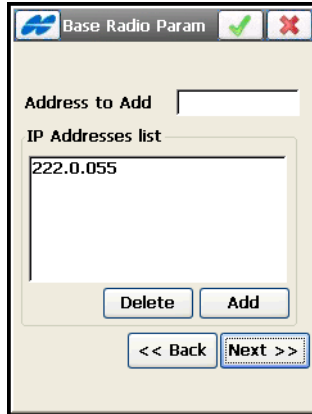

Figure 4-17. Base Multicast Parameters
- For AirLink CDMA (Multicast UDP), set IP addresses for data transmission from the Base Station to more than one Rover Receiver using CDMA modems (Figure 4-17).